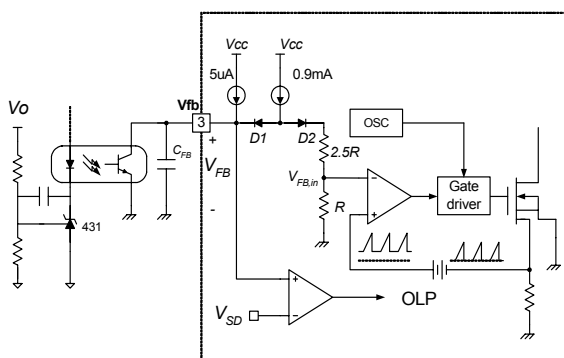

Figure 5. Pulse Width Modulation (PWM) Circuit
2. Feedback Control : The FSDx0365RN employs current mode control, as shown in Figure 5. An opto-coupler (such as the H11A817A) and shunt regulator (such as the KA431) are typically used to implement the feedback network. Comparing the feedback voltage with the voltage across the Rsense resistor plus an offset voltage makes it possible to control the switching duty cycle. When the KA431 reference pin voltage exceeds the internal reference voltage of 2.5V, the optocoupler LED current increases, the feedback voltage Vfb is pulled down and it reduces the duty cycle. This event typically happens when the input voltage is increased or the output load is decreased.
4.4 Over Voltage Protection (OVP) : In the event of a malfunction in the secondary side feedback circuit, or an open feedback loop caused by a soldering defect, the current through the opto-coupler transistor becomes almost zero (refer to Figure 5). Then, V_{FB} climbs up in a similar manner to the over load situation, forcing the preset maximum current to be supplied to the SMPS until the over load protection is activated. Because excess energy is provided to the output, the output voltage may exceed the rated voltage before the over load protection is activated, resulting in the breakdown of the devices in the secondary side. In order to prevent this situation, an over voltage protection (OVP) circuit is employed. In general, V_{cc} is proportional to the output voltage and the FPS uses V_{cc} instead of directly monitoring the output voltage. If V_{CC} exceeds 19V, OVP circuit is activated resulting in termination of the switching operation. In order to avoid undesired activation of OVP during normal operation, V_{cc} should be properly designed to be below 19V.